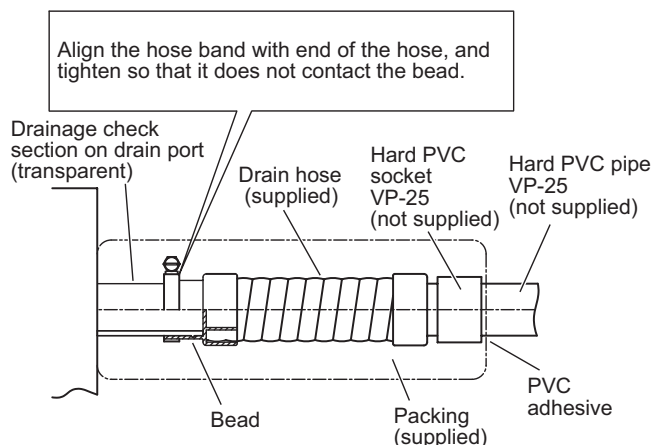

Fig. 2-94
The transparent drain part on the unit allows you to check drainage. (Fig. 2-94)
- Tighten the hose clamps so their locking nuts face upward. (Fig. 2-94)